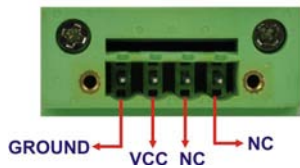

Figure 3-17: 4-pin Terminal Block Pinout Location
- CN Pinouts: See **Figure 3-17**